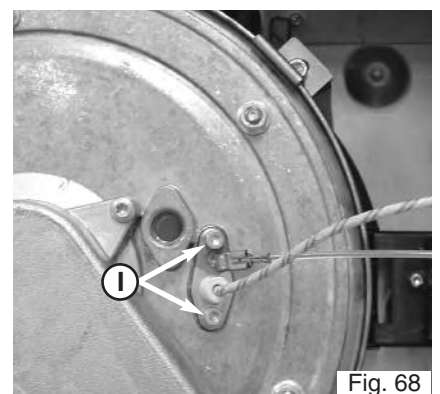

Fig. 68
4. Unscrew the 2 screws **I** on the electrode (Fig. 68);